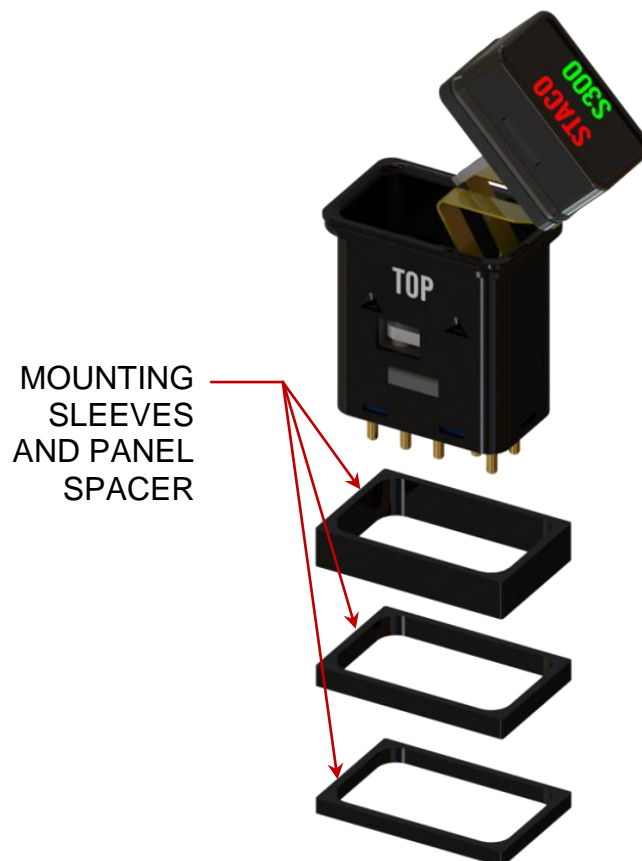

Figure 7: Mounting Cam
4.2.2. Remove Panel Spacer and Mounting Sleeve from Switch / Indicator Assembly. See Figure 7